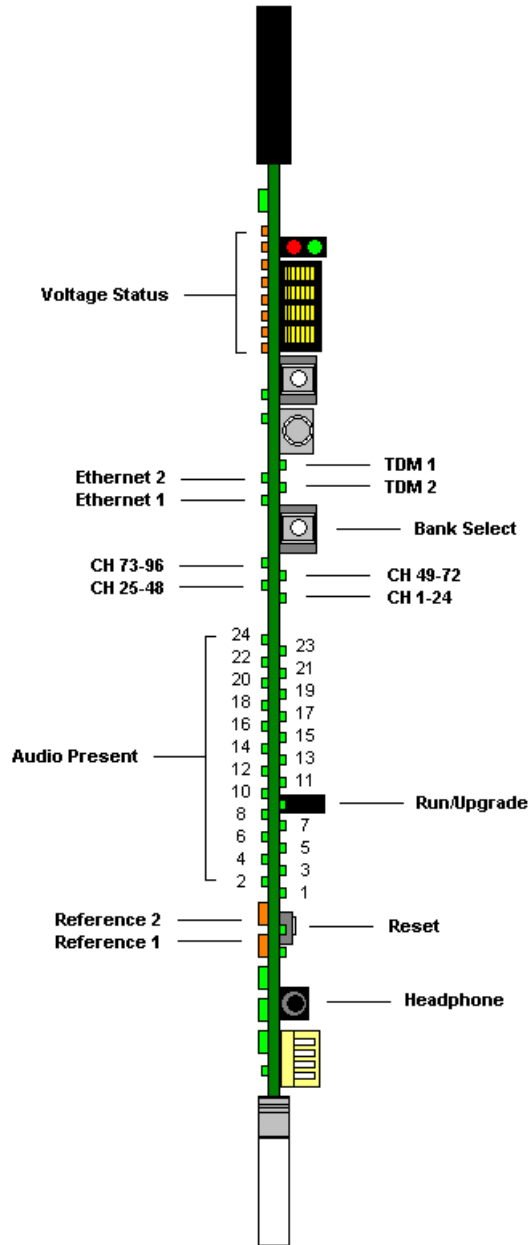

Figure 2-9: EMR-OP96(48)-AESU(B) Front Card Edge
The EMR-OP96(48)-AESU(B) front card edge has some key controls and indicators that can help in the installation and debugging processes. Figure 2-9 and Table 2-6 show the card edge and describe the expected behavior of each component. If the status indicators do not behave as described it can be a sign of installation or configuration issues.